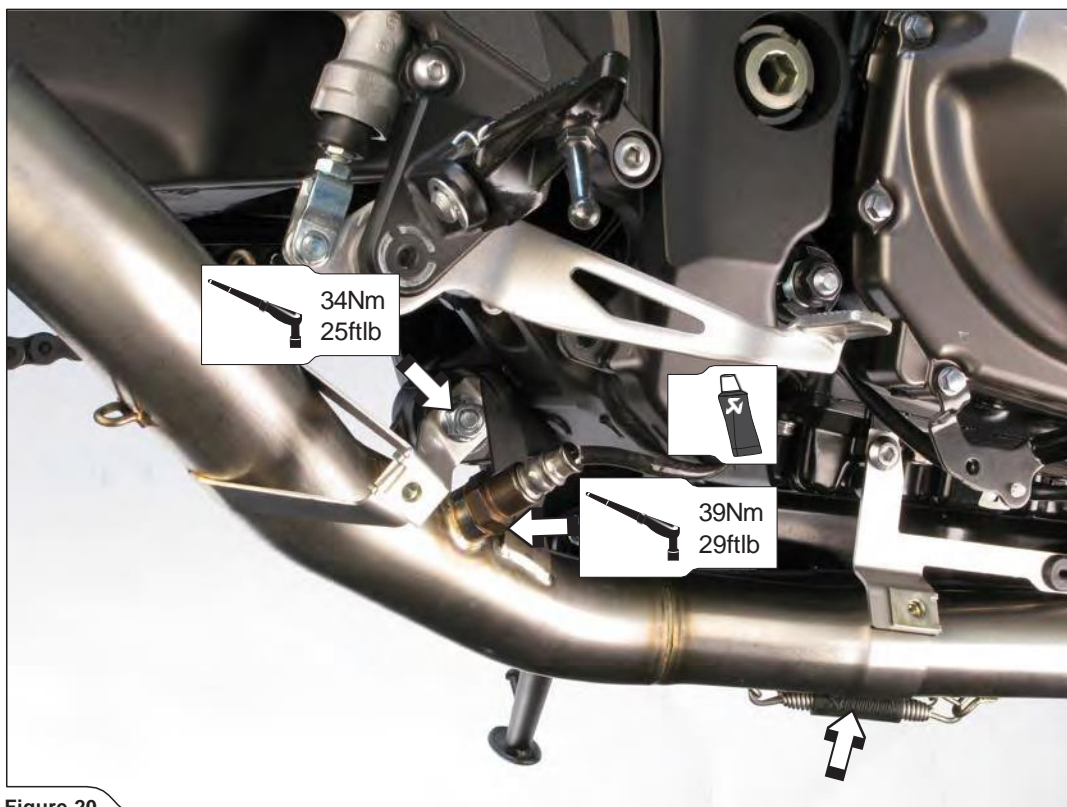

Figure 20
6. Slide the link pipe all the way onto the collectors. Attach the springs, tighten the link-pipes' bracket onto the frame (using M10x55 bolt and nut from Akrapovič installation kit) and lambda sensor to a specified torques (**Figure 20**).